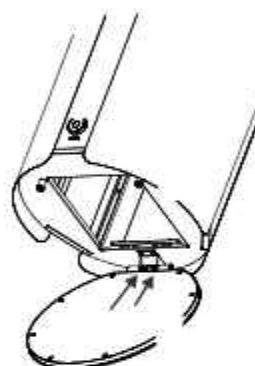

Fig.28
- Loose two screws as indicated Fig.28